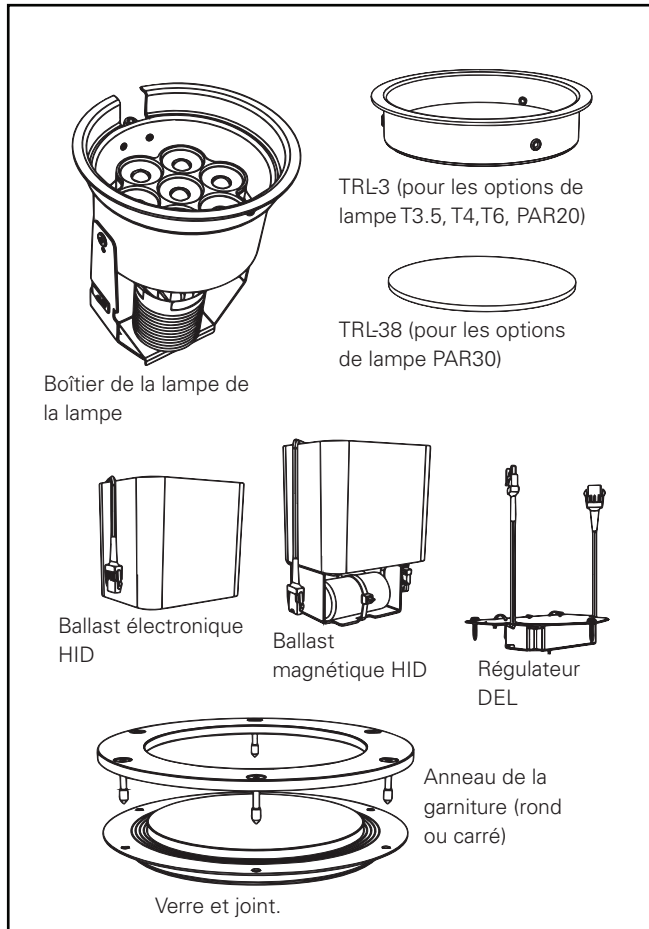

Figure 2.
3. Verre et joint. (Figure 2.)